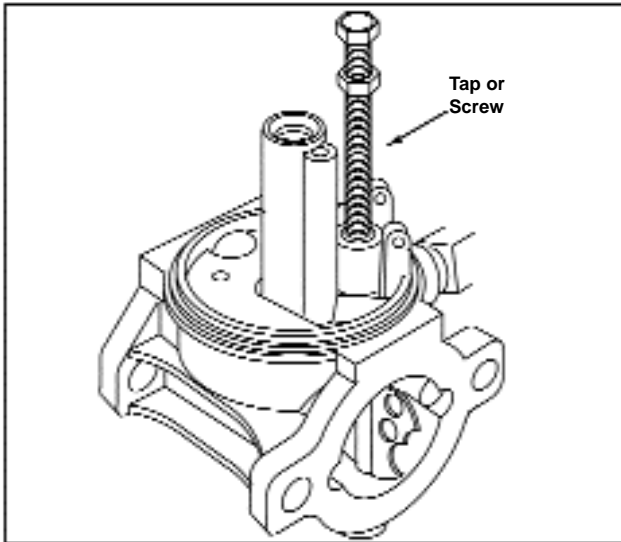

Figure 47 - Threading or Tapping Fuel Inlet Seat
2. Thread screw or tap into fuel inlet seat 3-4 turns and remove. See Figure 47